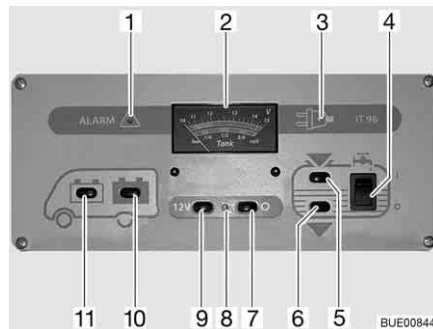

Fig. 135 Panel IT 96-2
The 12 V main switch (Fig. 135,7 and 9) switches the panel and the 12 V power supply to the living area on and off.
Switching on: ■ Press switch (Fig. 135,9) "12 V": The 12 V living area power supply is switched on. The indicator lamp (Fig. 135,8) lights up green.
Switching off: ■ Press switch (Fig. 135,7) "O": The 12 V living area power supply is switched off. The indicator lamp (Fig. 135,8) goes out.
With the V/tank gauge (Fig. 135,2), note the top scale. The gauge automatically lights up as soon as a switch is pressed.
- Press switch (Fig. 135,11) "": The battery voltage of the starter battery is displayed.
- Press switch (Fig. 135,10) "": The battery voltage of the living area battery is displayed.
The V/tank gauge is for the indication of the quantity of water or waste water. With the V/tank gauge (Fig. 135,2), use the bottom scale. The gauge automatically lights up as soon as a switch is pressed.
- Press switch (Fig. 135,5) "": The volume of water is displayed.
- Press switch (Fig. 135,6) "": The volume of waste water is displayed.
Switching on: ■ Press the upper part of the rocker switch (Fig. 135,4) "I": The water supply is ON.
Switching off: ■ Press the lower part of the rocker switch (Fig. 135,4) "O": The water supply is OFF.
The red "ALARM" warning light (Fig. 135,1) flashes as soon as the voltage of the living area battery falls below 11 V (measured under operation) and there is a risk of a total discharge.
The 12 V indicator lamp (Fig. 135,8) illuminates whenever the 12 V main switch (Fig. 135,9) is switched on.
The yellow 230 V indicator lamp (Fig. 135,3) illuminates whenever line voltage is available at the transformer/rectifier input.